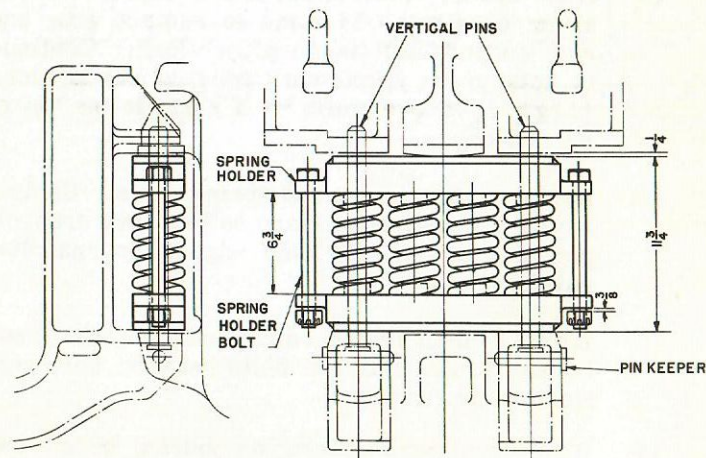

FIG. 5-7
7. Remove cotters and tighten nuts on spring holder bolts, Fig. 5-7.